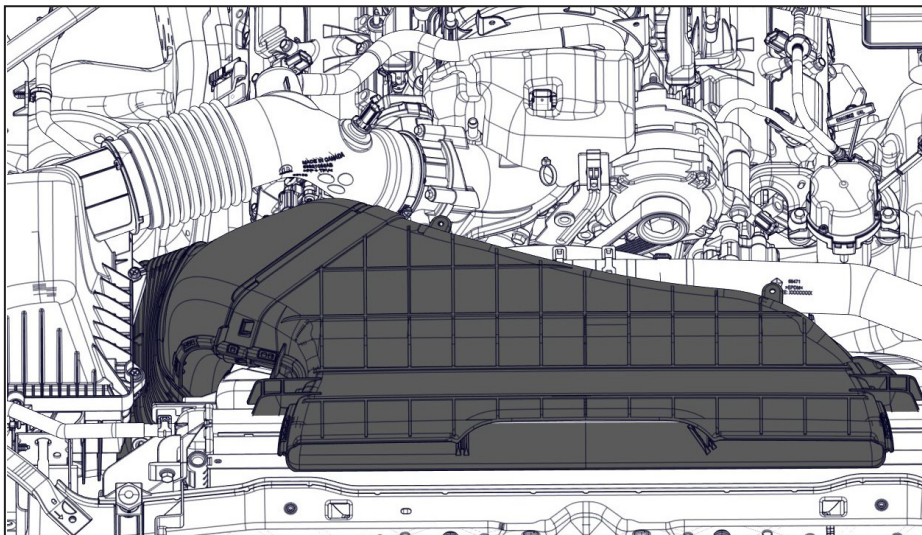

Figure 4 — Remove intake ducting
- ☐ Remove the radiator cover and intake ducting (Figure 4).